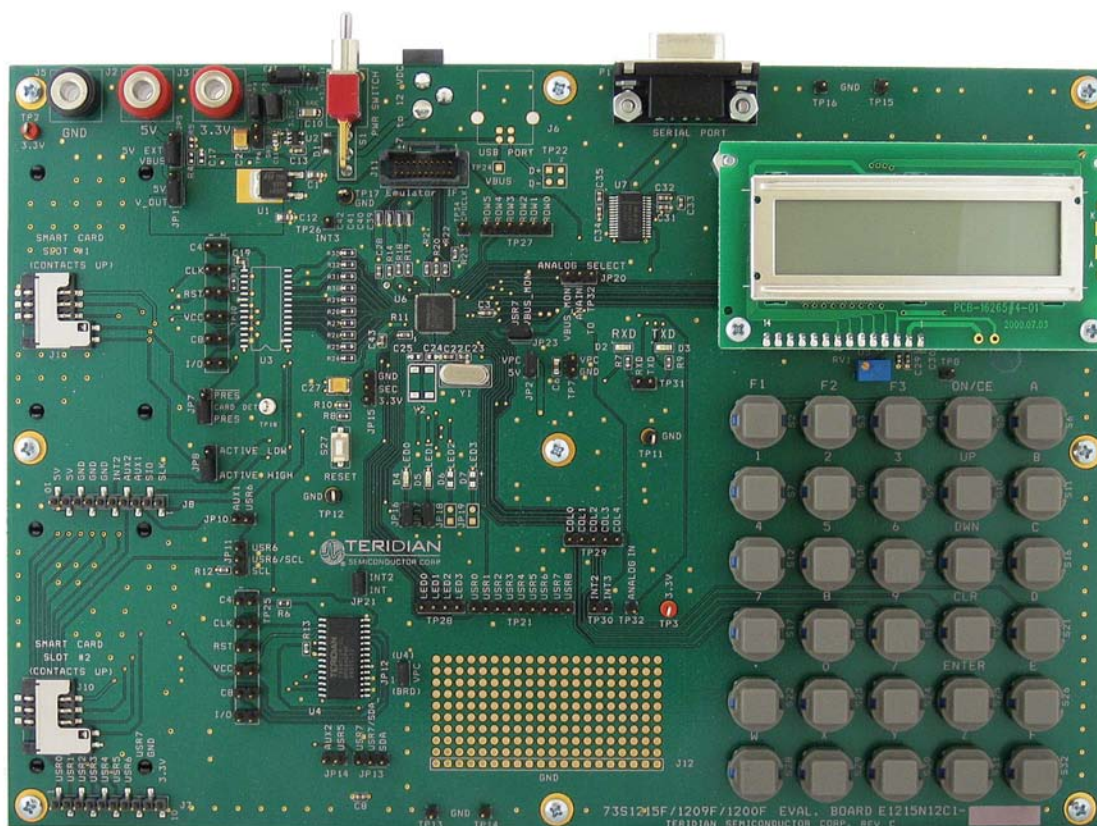

Figure 1: 73S1209F Evaluation Board
| Figure 1:  | 73S1209F Evaluation Board .....                                     | 4  |
- 73S1209F Evaluation Board: 4-layer, rectangular PWB as shown in Figure 1 (identification number E1215N12C1 Rev C), containing the 73S1209F with the preloaded turnkey program PCCID.
The 73S1209F Evaluation Board (see Figure 1) includes the following: